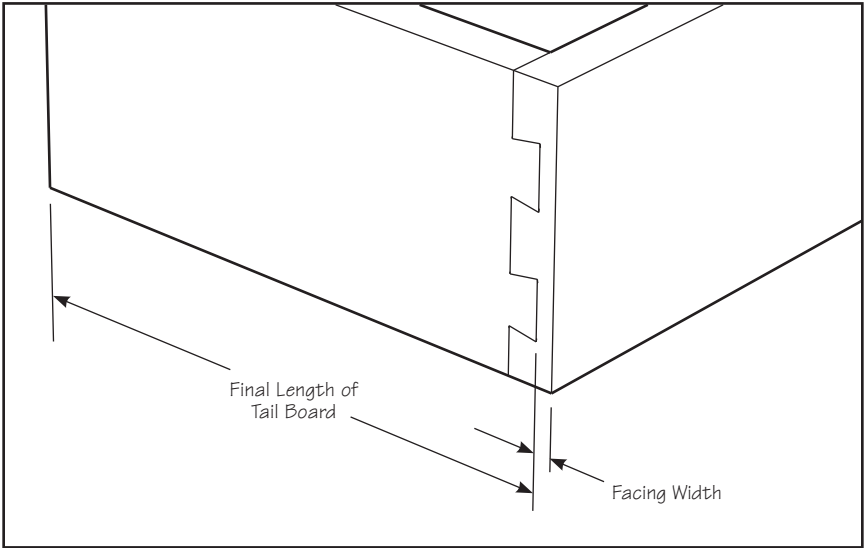
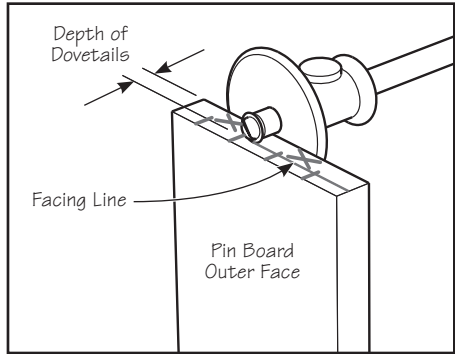

Figure 20: Half-blind dovetail joint.
Figure 22: Marking the facing line on the pin board. Note that the marking gauge is set to the depth of the dovetails.
The dovetail guides can also be used to cut half-blind dovetails (**Figure 20**). The general method is pretty much the same, but with some minor changes to the process.
- The pin depth can be marked as with through dovetails; however, it is best to mark the facing line on the pin board and the depth of the tails on the tail board with a marking gauge (**Figures 22 and 23**). The tail depth will be the thickness of the pin board, less the facing width (see **Figure 20**).